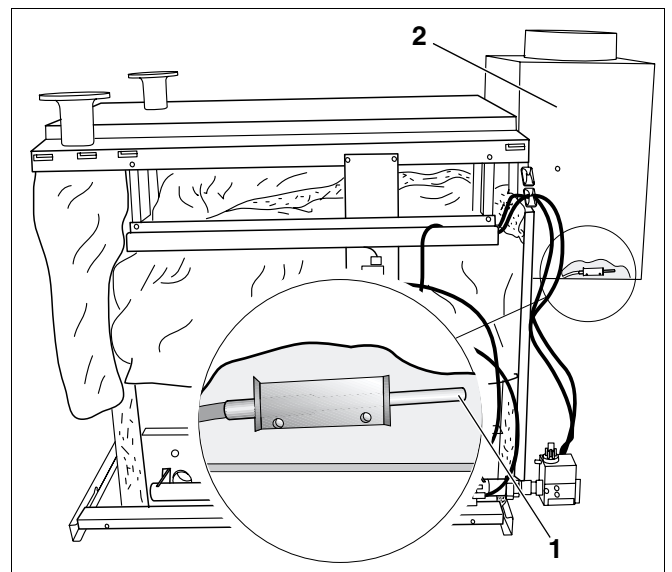

Fig. 14 Checking the flue gas temperature sensor
- Unscrew the flue gas temperature sensor (Fig. 14, **Item 1**, in total two flue gas temperature sensors, i.e. one per burner) from the draught hood (Fig. 14, **Item 2**).
- Hold the tip of the flue gas temperature sensor (Fig. 14, **Item 1**) into the core of the flue gas flow, whilst the burner is operating. The gas supply will be interrupted for a max. of 120 seconds, and the burner will be switched OFF. The burner is automatically restarted 20 minutes later, if heat is called for.
- Refit the flue gas temperature sensor (Fig. 14, **Item 1**).